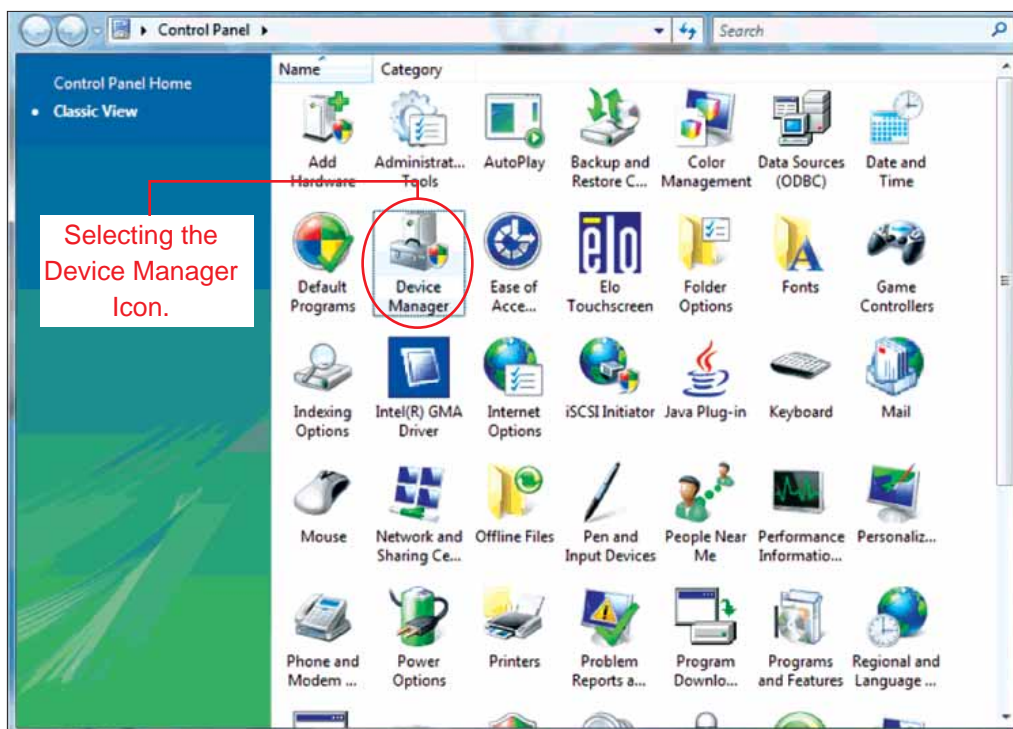

Figure 13-1. Windows Vista Control Panel
4. Select **Device Manager** from your **Control Panel** (Figure 13-1).